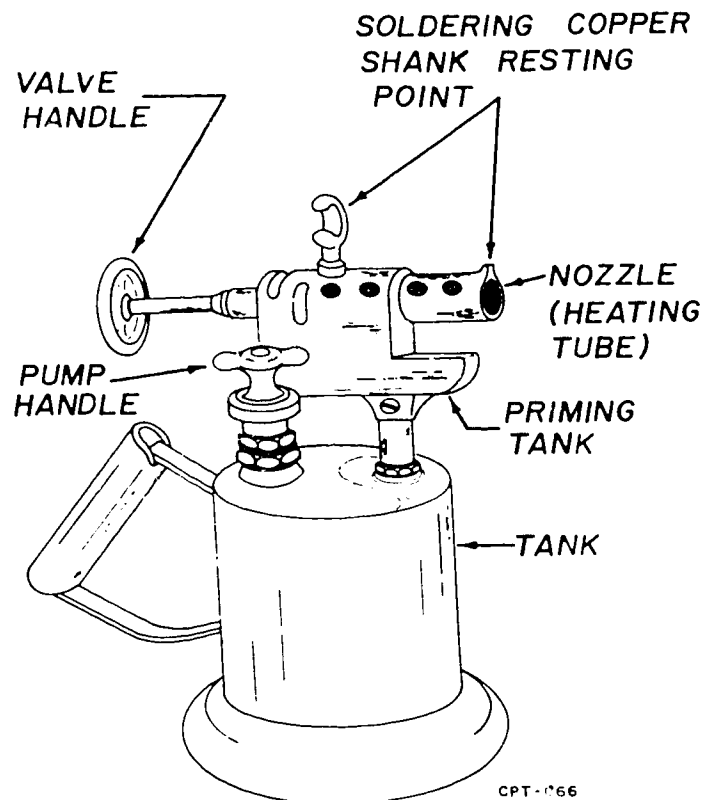

Figure 4-13. Gasoline blowtorch.
**Blowtorch.** The gasoline blowtorch, shown in figure 4-13, can also be used for heating soldering coppers in the shop or in the field, though the blowtorch is smaller than a firepot and not as efficient. Since the blowtorch is easier to carry, it is used mainly for small jobs or where portability is